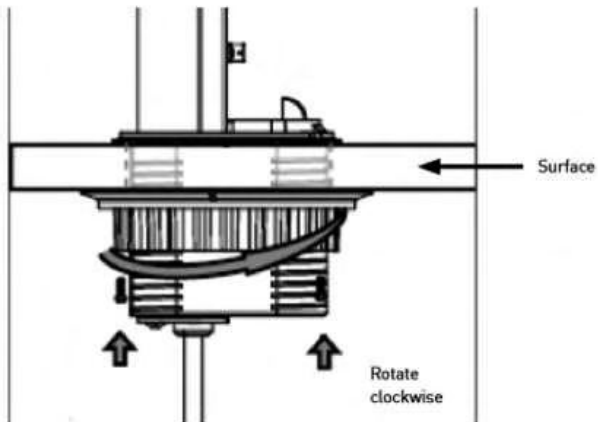

Fig. 2
- Put product in desired orientation and insert rubber gasket to bottom. Tighten the mounting collar to the underside of the surface (see Fig. 2)